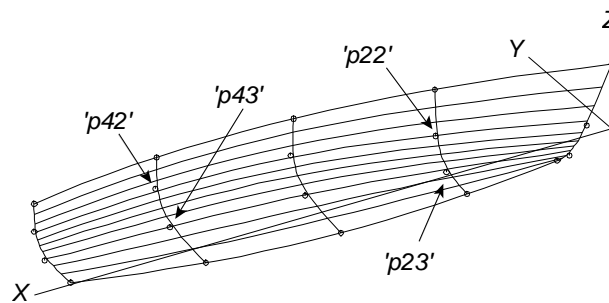

Fig. 1
**4**  (Show-Hide>Show Points) (Fig. 1).